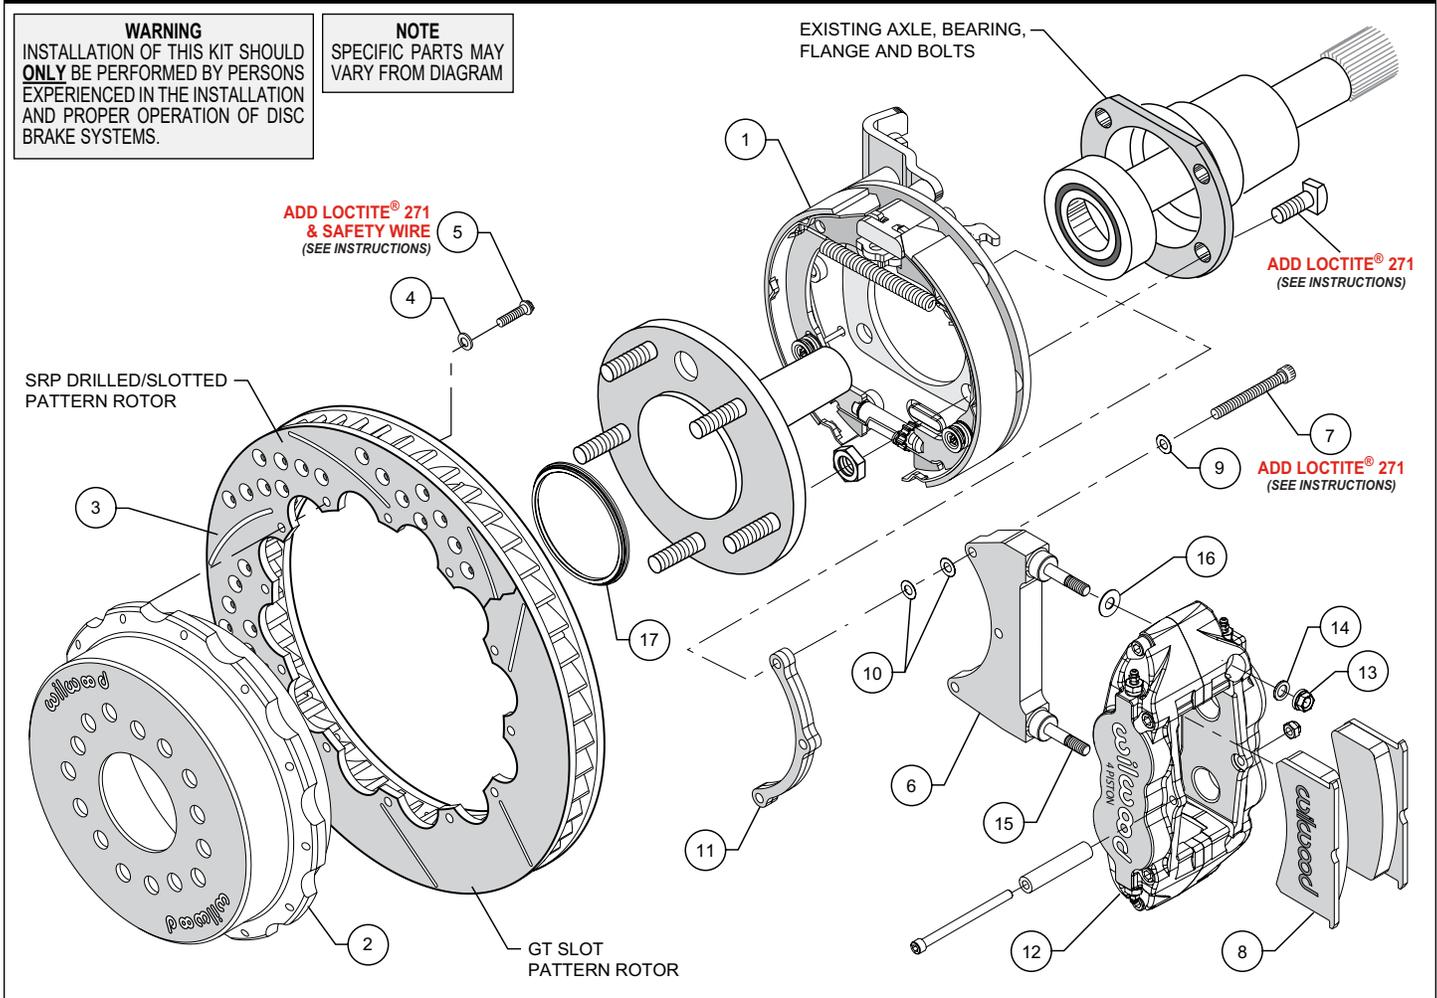
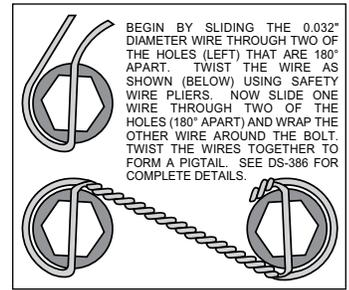

Figure 1. Typical Installation Configuration
Figure 4. Safety Wire Diagram
**Assembly Instructions** (numbers in parenthesis refer to the parts list and Figure 1 on the preceding pages): **CAUTION:** All mounting bolts must fully engage threaded holes.
- Orient the bracket assembly (1), as shown in Figure 1, and mount to the axle housing flange using the Original Equipment Manufacturer (OEM) bolts and nuts, Figure 1. Ensure that the bracket assembly backing plate fits flush against the axle housing flange. Apply red *Loctite*® 271 to the OEM bolt threads and torque to OEM specifications.
- Orient the rotor (3) and the hat (2) as shown in Figure 1 and Photo 1. Attach rotor to hat using bolts (5) and washers (4). Apply red *Loctite*® 271 to the bolt threads and torque to 155 **in-lb** using a criss-cross pattern. For an added measure of security, the bolts may be safety wired using standard 0.032 inch diameter stainless steel safety wire as shown in Figure 4. Please refer to Wilwood's data sheet DS-386 (available at [www.wilwood.com/Pdf/DataSheets/ds386.pdf](http://www.wilwood.com/Pdf/DataSheets/ds386.pdf)) for complete safety wire installation instructions.
- Slide the rotor registration adapter (17) onto the axle register on the axle flange with the smaller O.D. facing outward, Figure 1 and Photo 2. Align the correct hole pattern in the rotor/hat (2/3) with the stud pattern on the axle flange and slide into place, Figure 1. **NOTE:** The hat must fit flush against the axle flange or excessive rotor run out may result. Install three lug nuts (finger tight) to keep the rotor/hat assembly in place while continuing with the installation. **NOTE:** Some OEM and after market axles come with stud sizes larger than 0.50" diameter. Verify stud size and have a qualified machine shop drill the bolt circle of the hat/rotor to the correct stud size, if necessary.
- NOTE:** Please reference the caution statement at the beginning of the assembly instructions. The caliper mount bracket assembly (6) should initially be installed with clean, dry threads on the mounting bolts. Orient the bracket as shown in Figure 1 and Photo 3. Attach the bracket using bolts (7), flat washers (9), and spacer (11), Figure 1 and Photo 3. **NOTE:** End of bolt should not exceed inside face of insert. The bracket must tighten squarely against the back side of the bracket kit assembly. Inspect for interference from the axle flange. Initially place two .015" thick shims (10) on each bolt between the bracket (6) and the spacer (11), Figure 1.
- Initially place one .035" thick shim (16) on each stud between the caliper and the bracket, as shown in Figure 1 and Photo 4. Mount the caliper (12) onto the bracket (6) using lock nuts (13) and washers (14), Figure 1. Temporarily tighten the lock nuts and view the rotor through the top opening of the caliper. The rotor should be centered in the caliper, Photo 5. If not, adjust by adding or subtracting shims (10) between the bracket and the spacer (11). Always use the same amount of shims on each of the three mounting bolts. Once the caliper alignment is correct, remove the bracket mounting bolts one at a time, apply red Loctite® 271 to the threads, and torque to 180 in-lb.